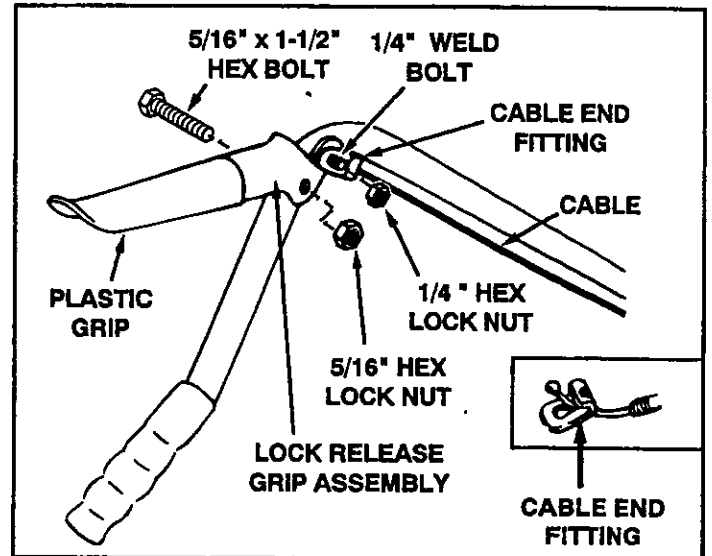

FIGURE 17 (Right Hand Side View)
- Assemble the plastic grip onto the lock release grip assembly. See figure 17.
- Attach the lock release grip assembly to the lift handle tube using one 5/16" x 1-1/2" hex bolt and one 5/16" hex lock nut. **Do not overtighten** the lock nut. The grip assembly must pivot freely. See figure 17.
- Assemble the ball end of the cable to a cable end fitting as was done to the other end of the cable. Secure the cable end fitting to the weld bolt on the lock release grip with a 1/4" hex lock nut. **Do not overtighten** the lock nut. The cable fitting must pivot freely. See figure 17.